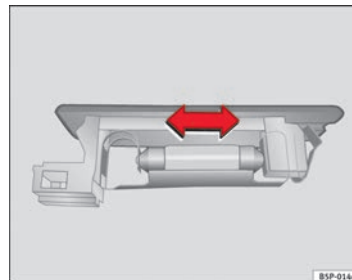

Fig. 177 Luggage compartment light
- Press the bulb sideways and remove it from its housing ⇒ Fig. 177. ■